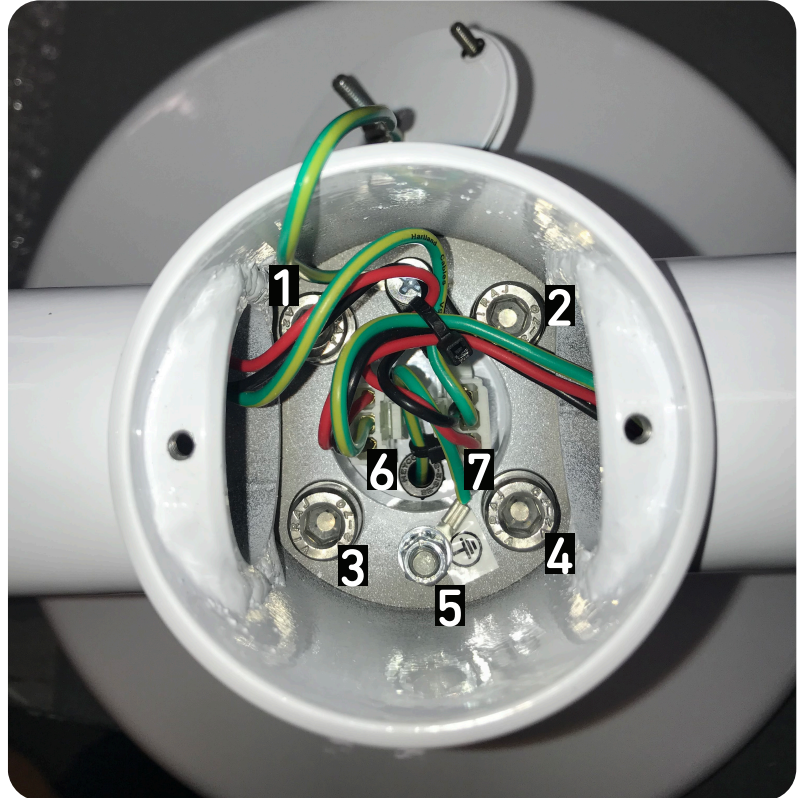

Fig. 2
1. Unscrew the 4 x M8 bolts: (1)(2)(3),4) with a CR-V 6mm Allen key (Fig. 2)
2. Disconnect the M5 Earth Tag (5) with a CR-V 8mm nutrunner. (Fig. 2)
3. Disconnect the 2 x 3-way plugs: (6) and (7). (Fig. 2)